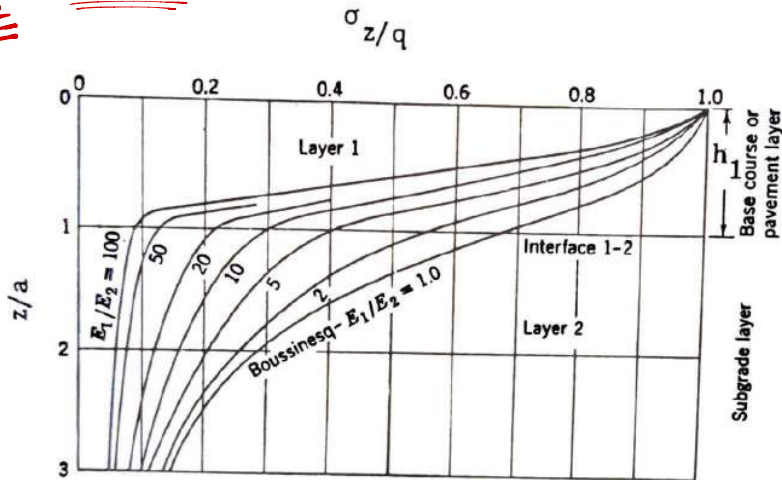

Figure 2.14 Vertical stress distribution in a two-layer system. (After Burmister (1958).)
Vertical stress (Figure 2.14)
- Only applicable if top layer = radius of rutting area (Fig 2.14) i.e.  $h_1 = a$